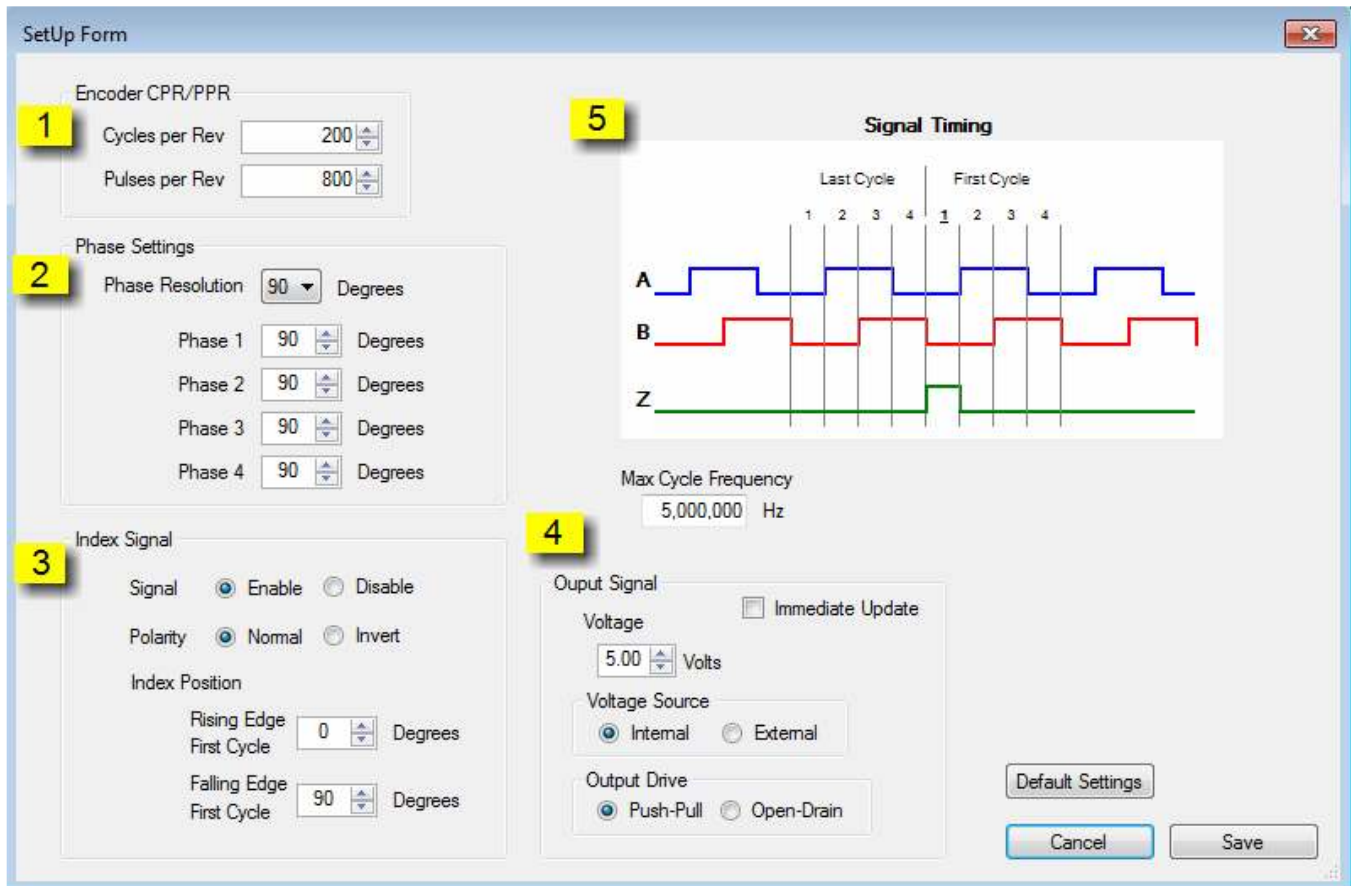

Figure 5.1-1 JI-820 Control Application Setup Menu
Encoder parameters such as Cycles-Per-Revolution (or Pulses-Per-Revolution), Index Signal, and encoder voltage are entered at the Setup Menu. The *Setup Menu* is shown below in figure 5.1-1. To access the Setup menu, click **Setup** followed by **Setup Menu** at the Main Window menu bar.
3. Next, open the Setup menu by click **Setup** followed by **Setup Menu** at the Main Window menu bar. The Setup Menu opens (see *Figure 5.1-1*)